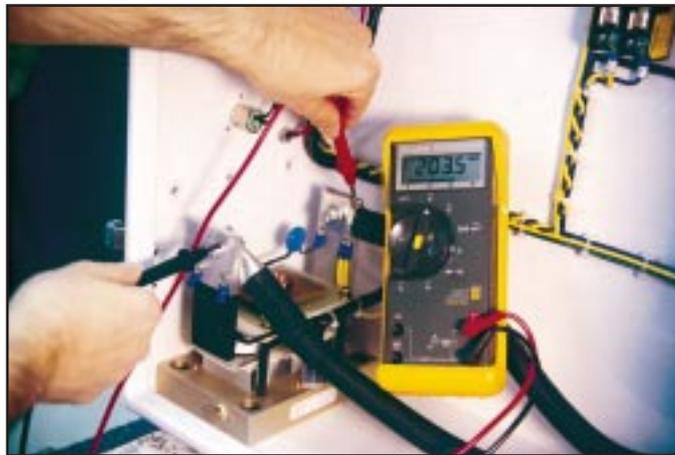

Figure 6
3. Shorted SCR contactor test. If the technician suspects that the SCR contactor has shorted, a voltage meter can be installed across the two large power terminals, as shown in **Figure 6**. When power is turned on to the control, the line voltage should be present across these points (unless the control has an isolation contactor installed).